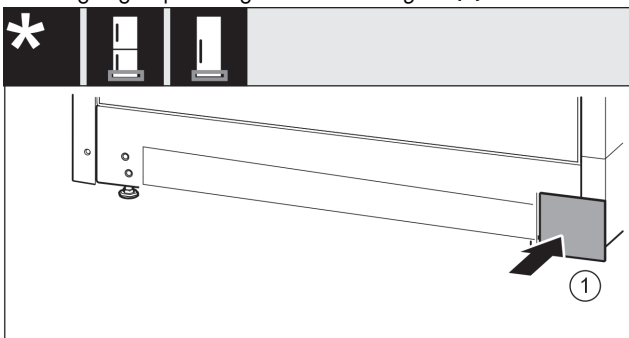

Fig. 12
- ▶ Put the cover back on the other side. Fig. 12 (1)